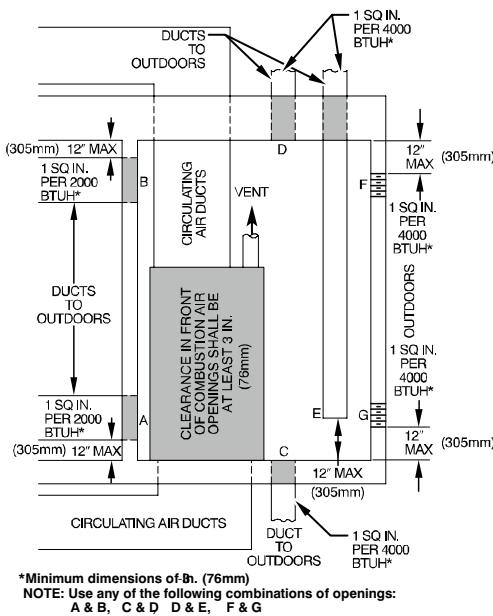

Fig. 6 – Air for Combustion, Ventilation, and Dilution for Outdoors
2. Fig. 6 illustrates how to provide TWO OUTDOOR OPENINGS, one inlet and one outlet combustion and ventilation air opening, to the outdoors.
- b. Size openings and ducts per Fig. 6 and Table 4.
- c. TWO HORIZONTAL DUCTS require 1 sq. in. (645 sq. mm) of free area per 2,000 BTU/h (1,100 mm²/kW) of combined input for all gas appliances in the space per Fig. 6 and Table 4.
- d. TWO OPENINGS OR VERTICAL DUCTS require 1 sq. in. (645 sq. mm) of free area per 4,000 BTU/h (550 mm²/kW) for combined input of all gas appliances in the space per Fig. 6 and Table 4.
- 1 sq. in. (645 sq. mm) of free area per 3,000 BTUh (734 mm²/kW) for combined input of all gas appliances in the space per Fig. 6 and Table 4.